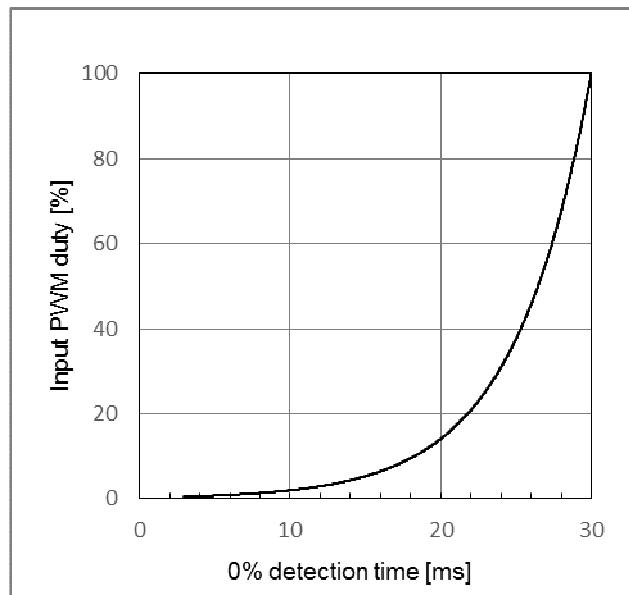

Figure 39. Input PWM DUTY vs 0% detection time
This IC processes input duty from PWMIN terminal through the filter in logic circuit. Therefore the time to shift standby mode varies according to input PWM duty before inputting PWM=L. When PWM=L is input, relations of the input duty till then and the time to detect 0% are shown in Figure 39.
*When the soft start time is set, it takes more time to duty fall down except the filter time of Figure 39.